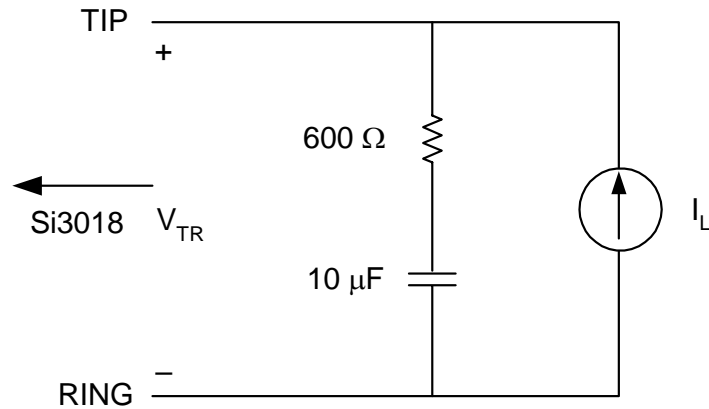

Figure 1. Test Circuit for Loop Characteristics
($V_D = 3.0$ to 3.6 V, $T_A = 0$ to 70 °C for K-Grade, see Figure 1)
2. Measured at TIP and RING with 600 Ω termination at 1 kHz, as shown in Figure 1.
2. Measured at TIP and RING with $600\ \Omega$ termination at 1 kHz, as shown in Figure 1.